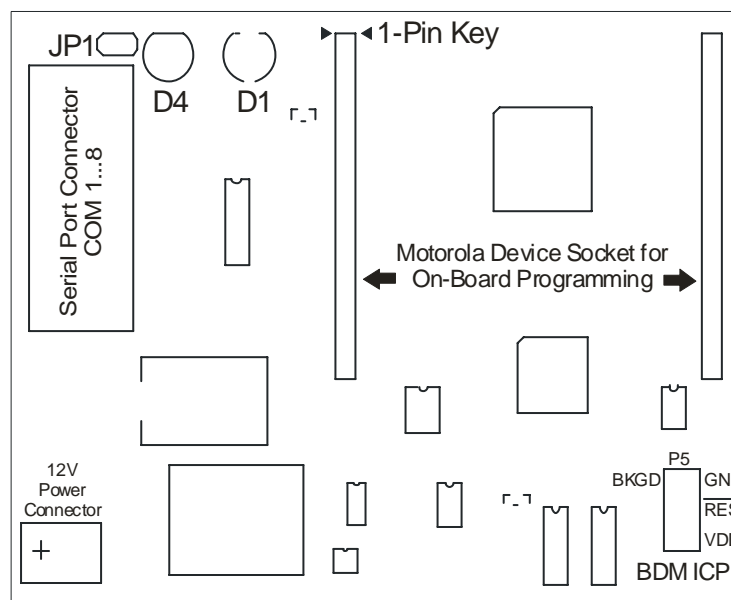

Figure 1. The **HC912-Programmer** board layout
The **HC912-Programmer** includes two LED's and mode jumper (Figure 1).
- Insert jumper JP1 (see Figure 1).
- Remove JP1 (see Figure 1).
Note: When using In-Circuit programming interface remove adaptor from Motorola device socket (see Figure 1).
Note: When On-board programming interface used, remove cable from BDM ICP connector (see Figure 1).
- Remove any adaptor from Motorola device socket (see Figure 1).
- Insert adaptor to Motorola Device Socket on HC912-Programmer in according to 1 pin-key (see Figure 1).
- Remove cable from BDM ICP connector (see Figure 1).